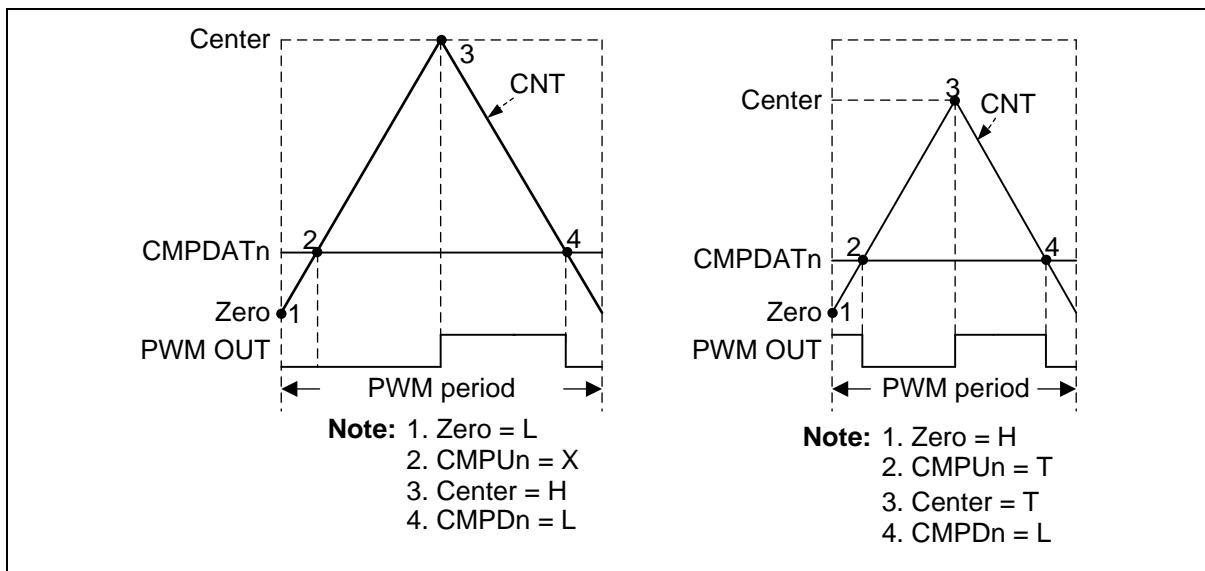

Figure 6.11-14 BPWM Pulse Generation (Left: Asymmetric Pulse, Right: Variety Pulse)
Each event point can decide BPWM waveform to do nothing (X), set Low (L), set High (H) or toggle (T) by setting BPWM_WGCTL0 and BPWM_WGCTL1 registers. Using these points can easily generate asymmetric BPWM pulse or variant waveform as shown in Figure 6.11-14. In the figure, there is a comparator n to generate BPWM pulse, whrer n denotes channel number 0 to 5. CMPU denotes CNT is equal to CMPDAT when counting up, and CMPD denotes CNT is equal to CMPDAT when counting down.